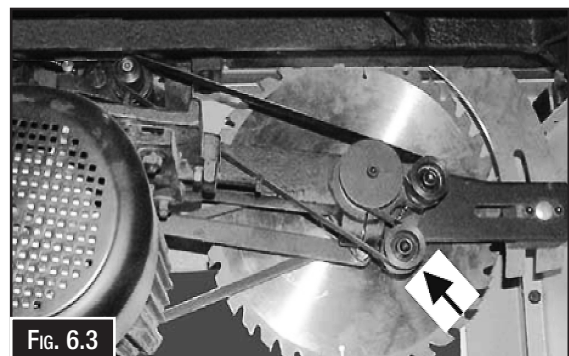

FIG. 6.3
4. Push the tension pulley as far as it will go as the arrow shows. (Fig. 6.3)